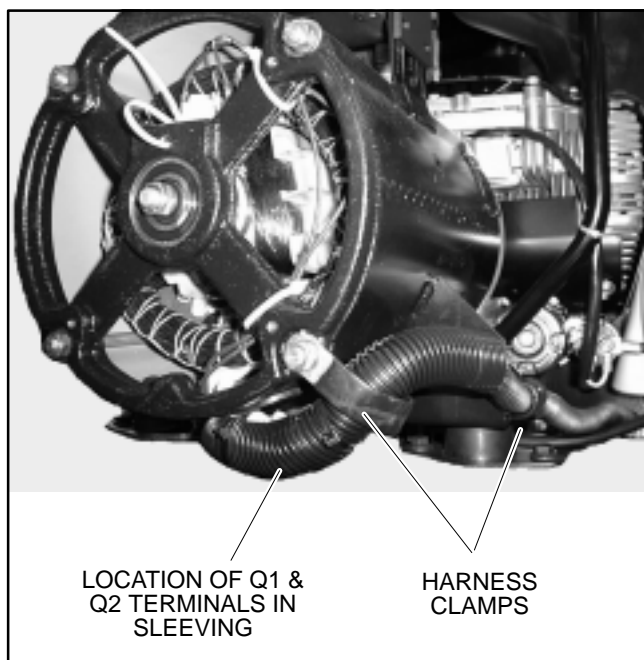

FIGURE 8-4. ALTERNATOR HARNESS
The following sections describe the disassembly and reassembly procedures for the generator. Figure 8-4 illustrates generator disassembly.
2. Remove the two harness clamps that secure the harness to the outside of the generator (Figure 8-4).
4. Disconnect leads Q1 and Q2. Connectors are located in the harness sleeving at the rear of the generator (Figure 8-4).